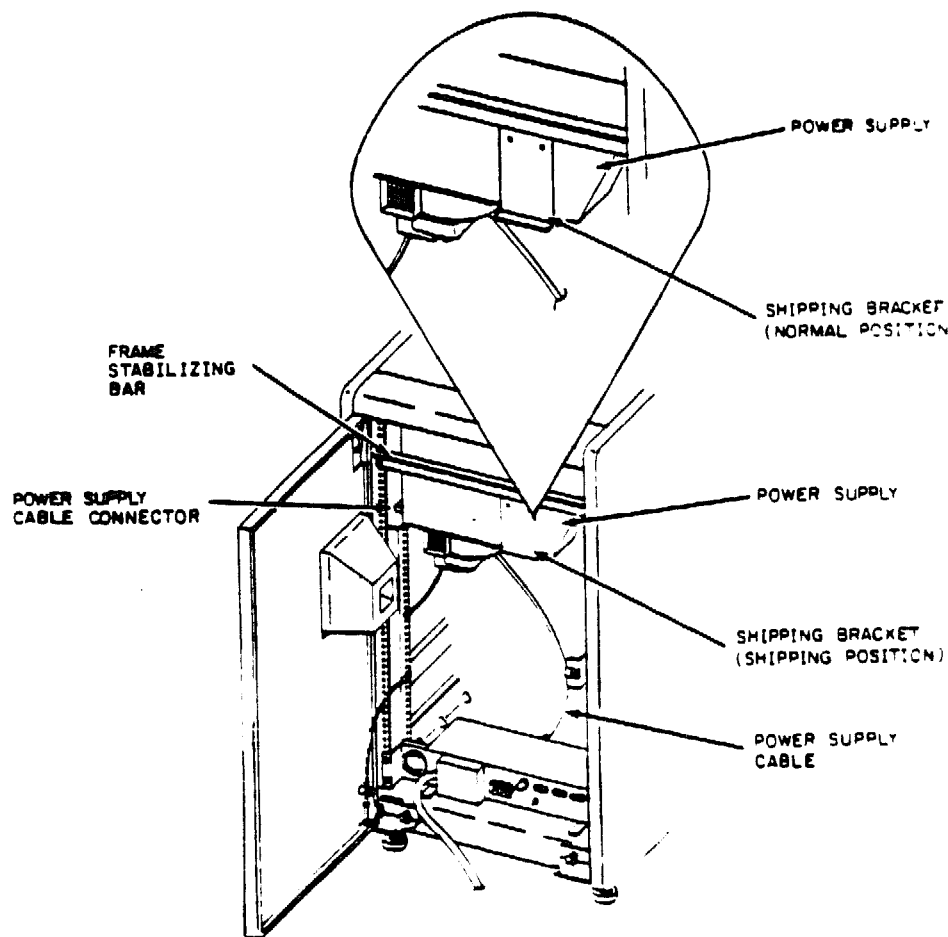

Figure 5-22. POWER SUPPLY (REAR CABINET VIEW)
1. Disconnect the power cable from the power supply. See Figure 5-22.
7. Remove the frame stabilizing bar by removing the mounting screws. See Figure 5-22.